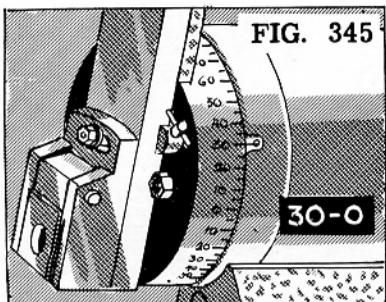
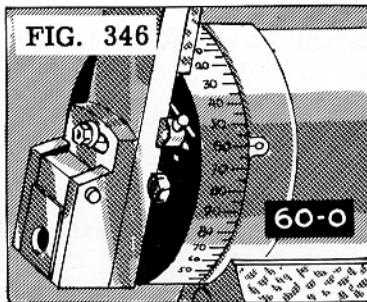

FIG. 345
FIG. 346
1. When the graduations start with a zero opposite the zero mark on the ram and the head is in a vertical position, the angle is set "direct," which would be 30° (Fig. 345).
When the graduations start with zero, the head must be set at the complement of 30° which is 60° (Fig. 346).
If the angle is designated as in Figure 347 and a line (A) is drawn vertical with the piece to form a 90° angle with the base of the work, the remaining angle is 30° , or the complement of 60° . The head must be swiveled 30° to the right if the graduations start with zero (Fig. 345). If the head is graduated as in Fig. 346, the head will be moved through 30° , but 60° will correspond with the zero mark on the ram.
The angle to which the head must be swiveled from the vertical position to make an angular cut of 130° (Fig. 353) is 40° . If the head is graduated as in Fig. 346, the reading will be 50° , or the complement of 40° . Other methods may be used to compute the angle at which to set the tool head. However, the principles described cover most cases.
3. Swivel the head the desired number of degrees, starting from the vertical position. Read direct if the head is graduated as shown in Fig. 345. Set the head at the complement of the desired angle if the head is graduated as illustrated in Fig. 346.